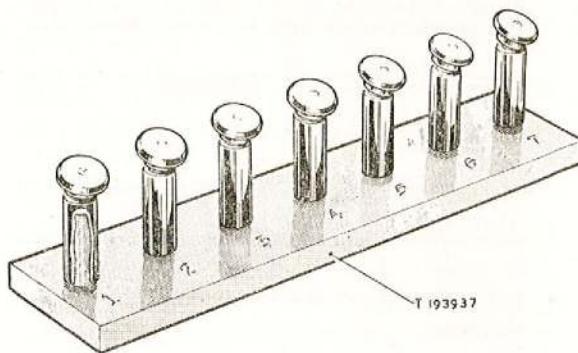
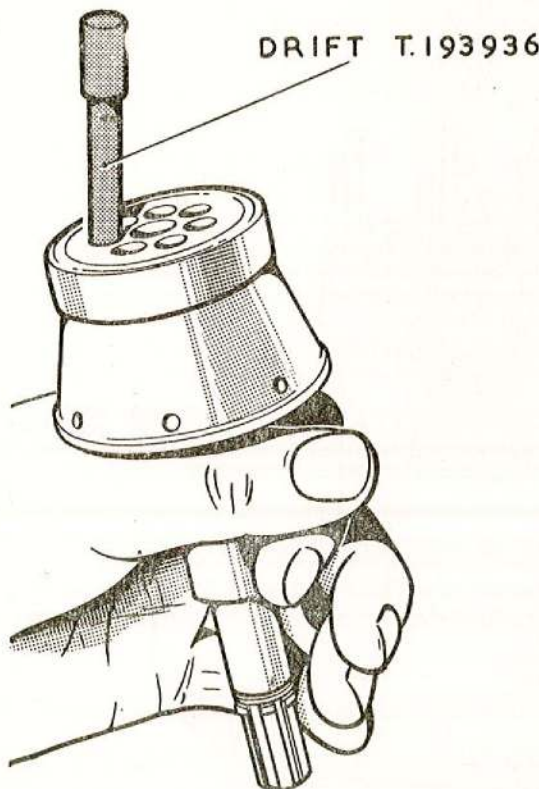

Fig. 13. Storage stand for rotor pistons
Fig. 14. Removing the rotor piston spring guides
T.193937 (fig. 13). Lift off the auxiliary camplate, thrust ball, shims, spring and spring seat. Remove the spring guides from the rotor bores by gently tapping each with a soft-nosed drift T.193936 inserted through the small end of the rotor bore (fig. 14).